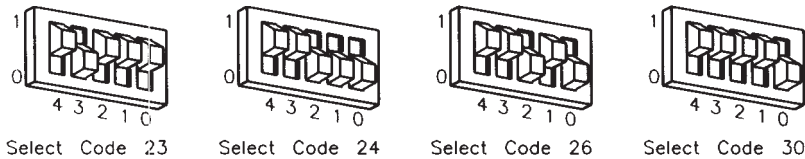

Figure 5-11.
- b. Set these switches to one of the four select codes given in Figure 5-11, unless you have used them elsewhere. Refer to the installation note that came with the interface if you need additional switch settings.